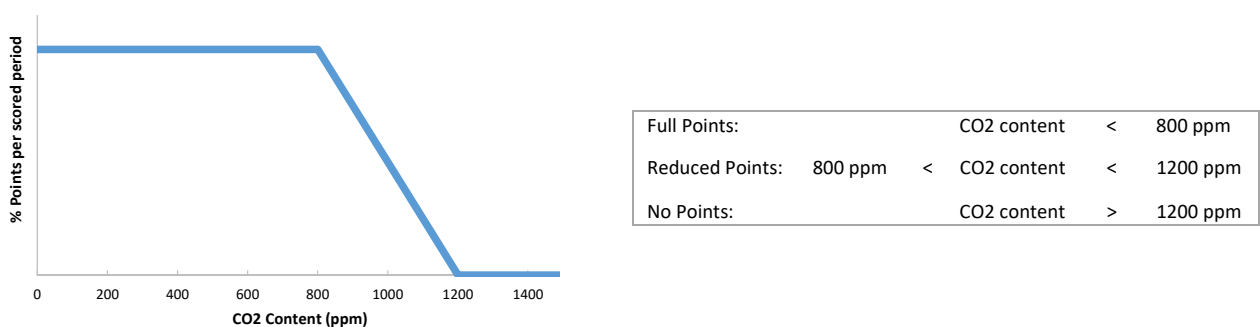

Figure 9: Air quality (CO2) sub contest point distribution
- Reduced points are earned if the content in CO2 is between 800 ppm and 1200 ppm. Reduced points values are scaled linearly, as shown in Figure 9.